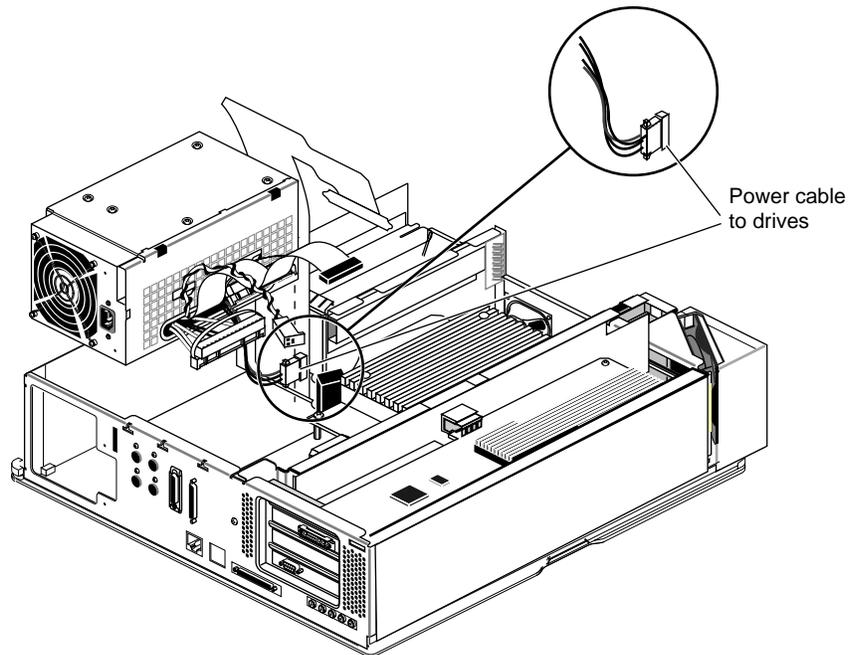

Figure 2-16 Connecting the Power Cable to the Drives
- Hold the power supply with one hand so that the fan faces the back of the chassis and the power connectors are on the bottom. With your other hand, connect the free end of the power cable (shown in Figure 2-16) to the connector located close to the disk drives.